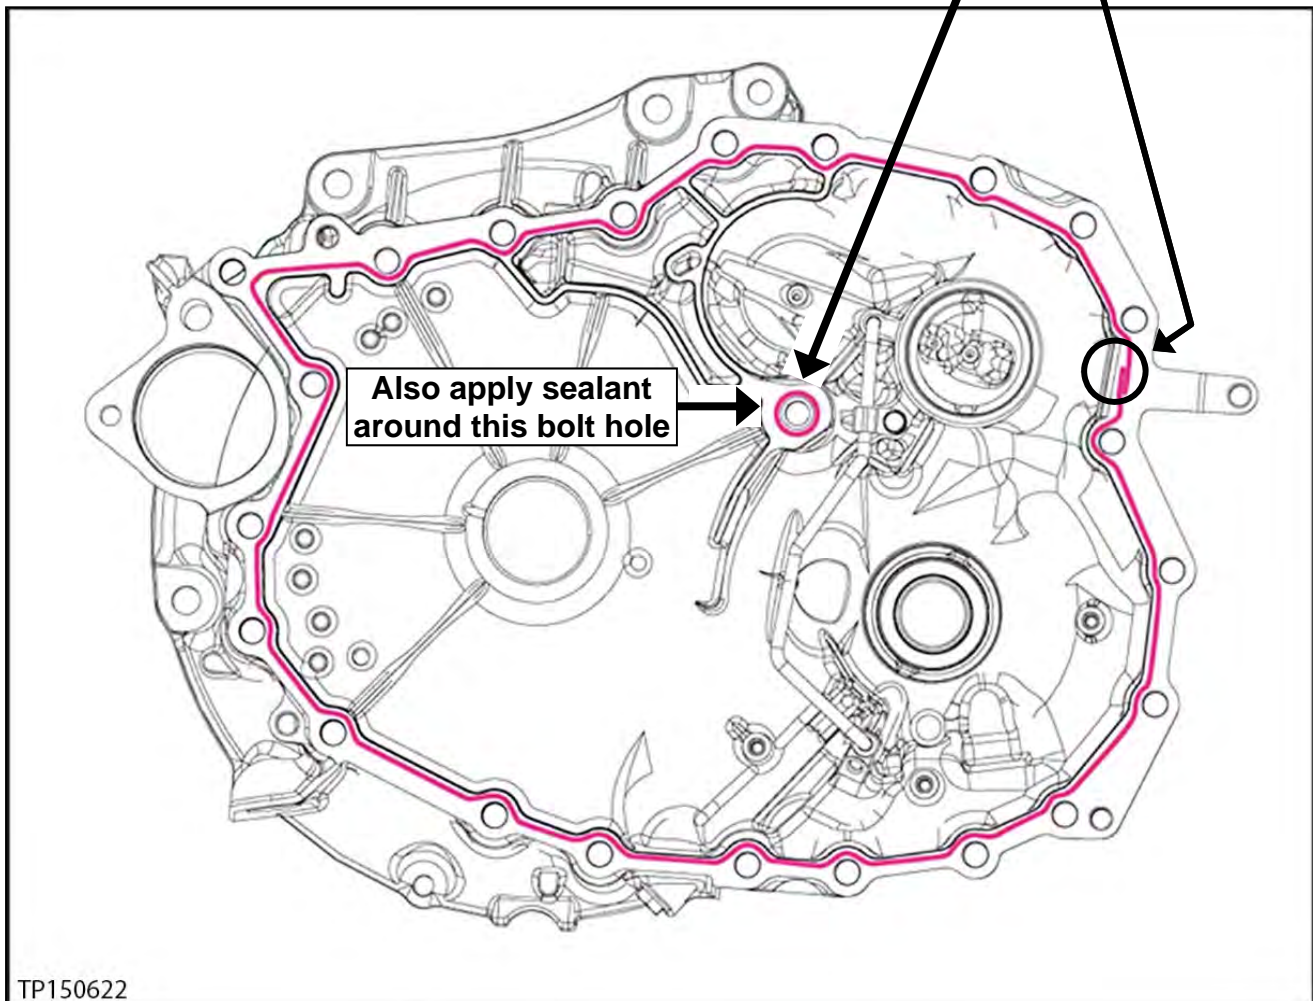

Figure 150
113. Apply one continuous, 2.0 mm (**0.8 inches**) diameter, bead (Figure 150) of pink colored Loctite 5460 Sealant (see **PARTS INFORMATION** on page 93).
- Before sealant application, make sure the mating surfaces are clean from oil, dirt, old sealant, etc. (Figure 150).